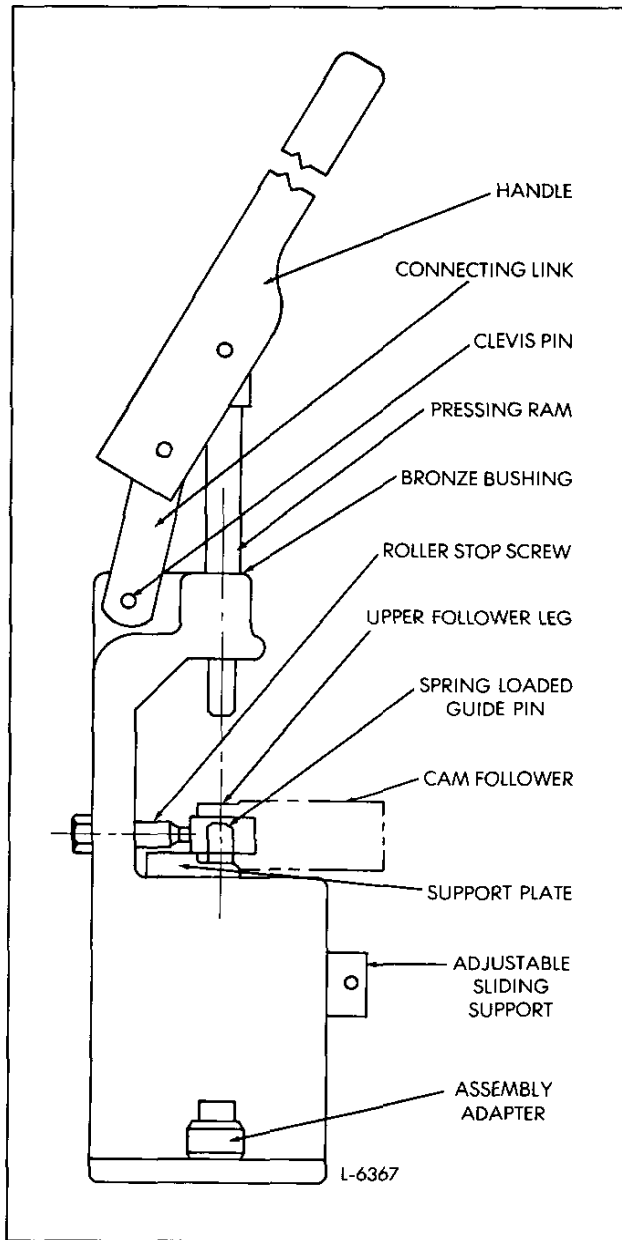

Fig. 7 - Removing or Installing Cam Follower Roller
1. Pull the adjustable sliding support out against its stop (Fig. 7).